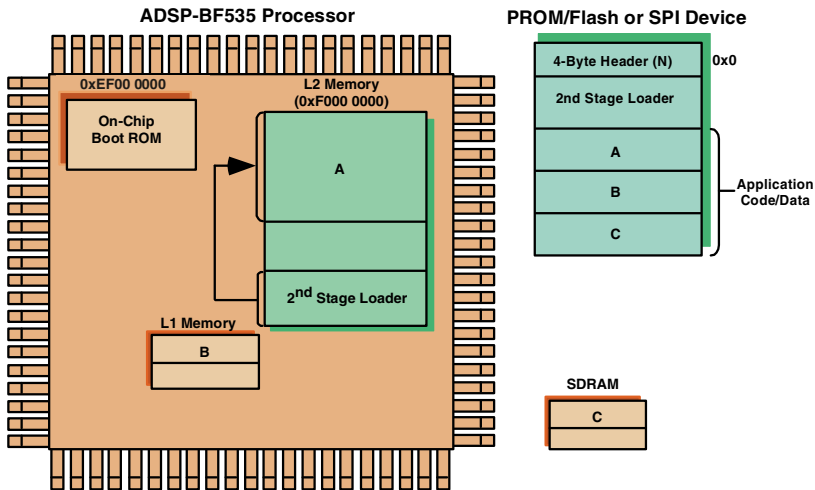

Figure 3-10. ADSP-BF535 Processors: Starting Application Code
4. Finally, after booting, the second-stage loader jumps to the start of L2 memory (0xF000 0000) for application code execution (Figure 3-10).